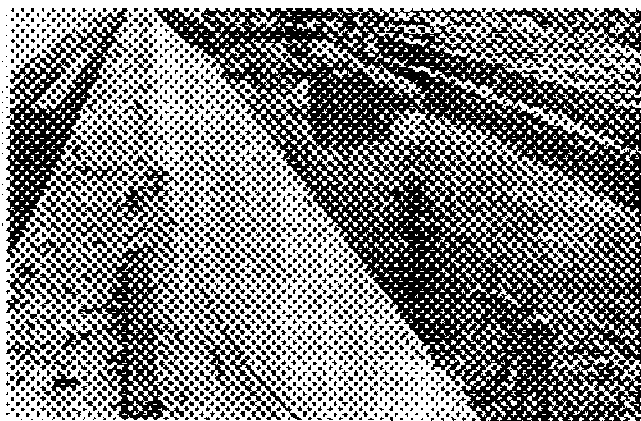

Figure C-1. Curved-face seawall, Galveston, TX
*b. Prototype installation.* A classic example is the Galveston seawall (Figure C-1) built in response to the devastating hurricane that struck that area in 1900. A large concrete structure with a compound-radius face, it is founded on piles and fronted with heavy stone toe protection. The vertical height is about 16 ft, measured from the base of the concrete pile caps. In addition, a sheet-pile cutoff wall provides a last line of defense against toe scour that would threaten to undermine the wall.